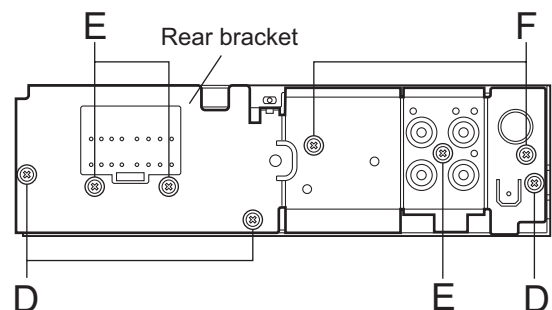

Fig.7
2.1.5 Removing the rear bracket (See Fig.7.)